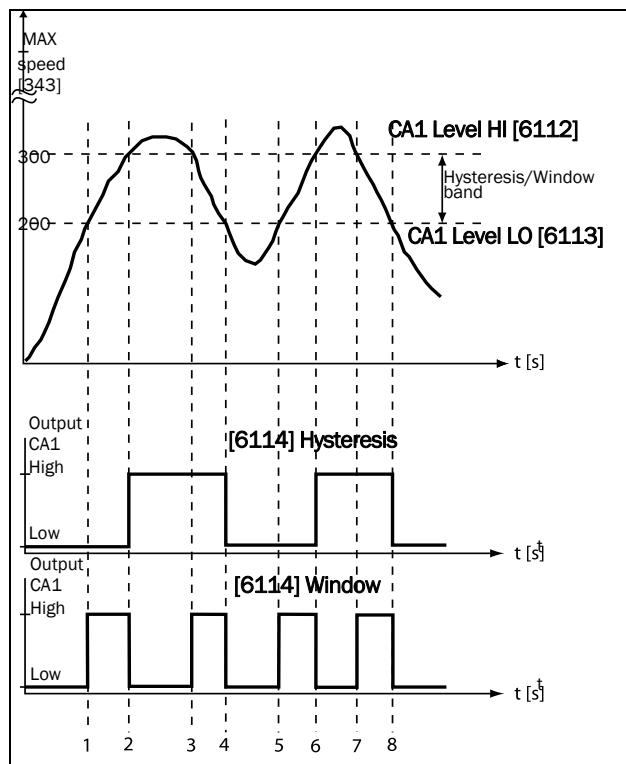

Fig. 140
*Table 42 Comments to Fig. 140 regarding Hysteresis selection.*
*Table 43 Comments to Fig. 140 regarding Window selection.*